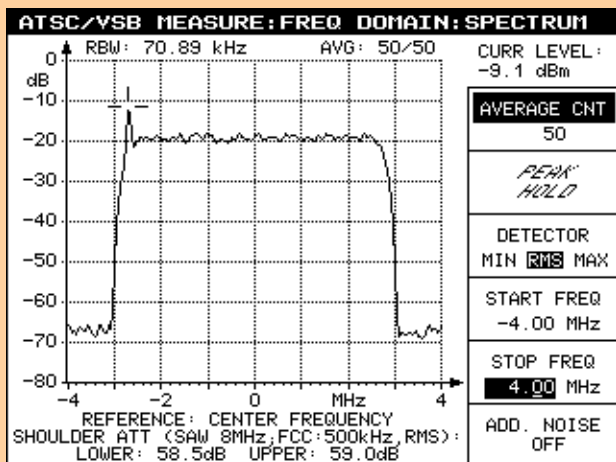

Fig. 3: Spectrum analysis
- ◆ Frequency spectrum, including automatic shoulder attenuation measurement to FCC recommendation (Fig. 3),